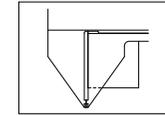

Fig.3
- Horizontal vernier caliper is set zero(Fig.3). Close horizontal vernier jaws and press '0' button to set zero.